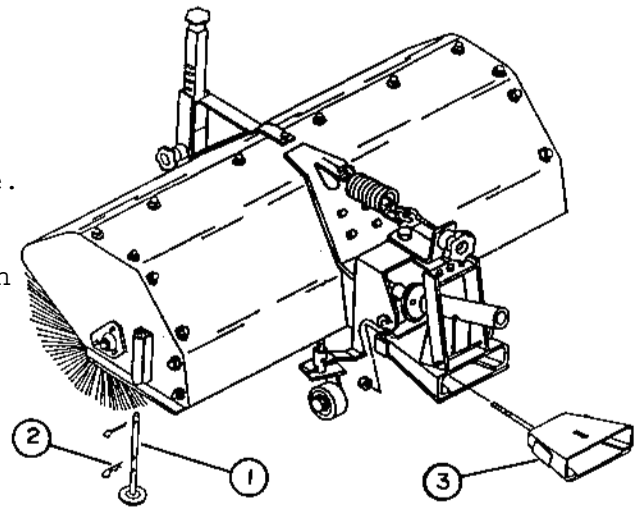

FIGURE 1
a) Insert a parking stand (fig.1, item 1) in each stand support from the underside. Install a 5/32" x 1 1/4" cotter pin in upper hole of each parking stand. Set parking stands in most extended position and secure each stand with a 4mm x 80mm hairpin (fig.1, item 2).
b) Install adapter (fig. 1, item 3) inside broom female hitch. Secure with a 5/8" nylon nut.